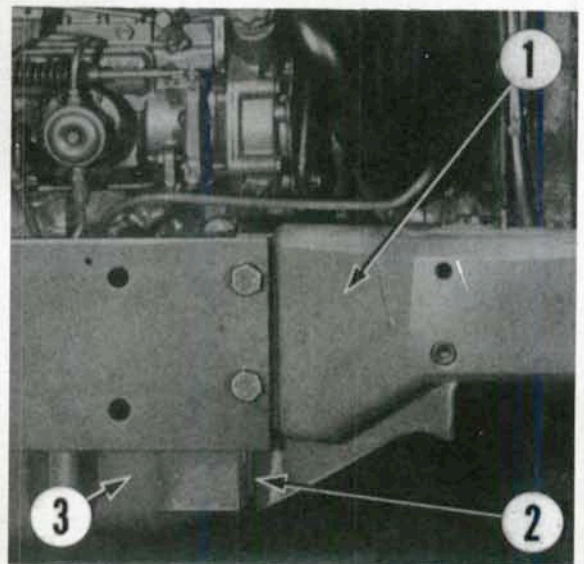

Fig. 4—Shims (2) are used to correctly align front axle support (1) with engine and oil pan (3).
**4. FRONT SUPPORT.** To remove front axle support (1—Fig. 4), first disconnect battery cables. Remove front end weights, hood top panel and side panels and radiator grille. Disconnect wiring from front lights and horn. Drain engine coolant and remove radiator. On TW-25 and TW-35 models, drain fuel from main tank, then remove main fuel tank and the tank support assembly.
To reinstall axle support, reverse the removal procedure while noting the following special instructions: To determine correct thickness of shims (2—Fig. 4) to install between axle support (1) and oil pan (3), install axle support (without shims) and tighten engine and oil pan cap screws to 200 ft.-lbs. (270 N·m)